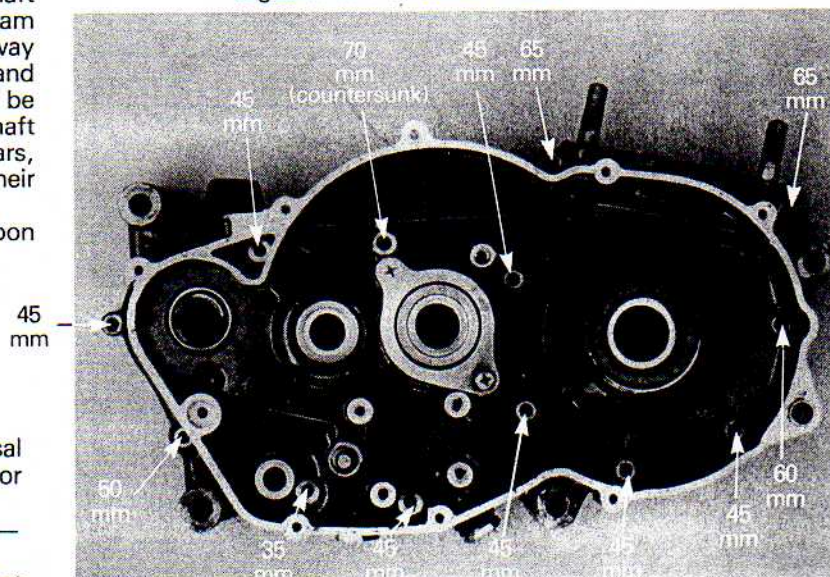

Fig. E7. Showing position of crankcase screws and their lengths.
- 27 Remove the crankcase screws as indicated in Fig. E7.